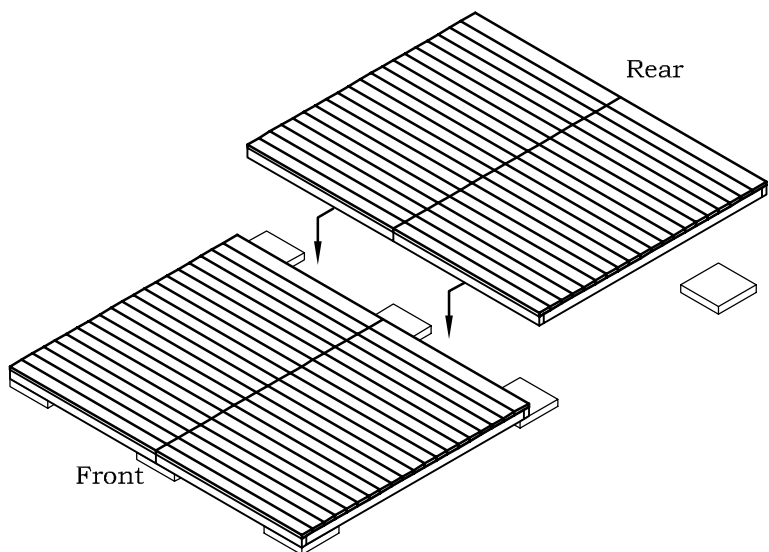

FIGURE S3
- Using 3" long screws, fasten the floor sections together as shown in Figure S3.